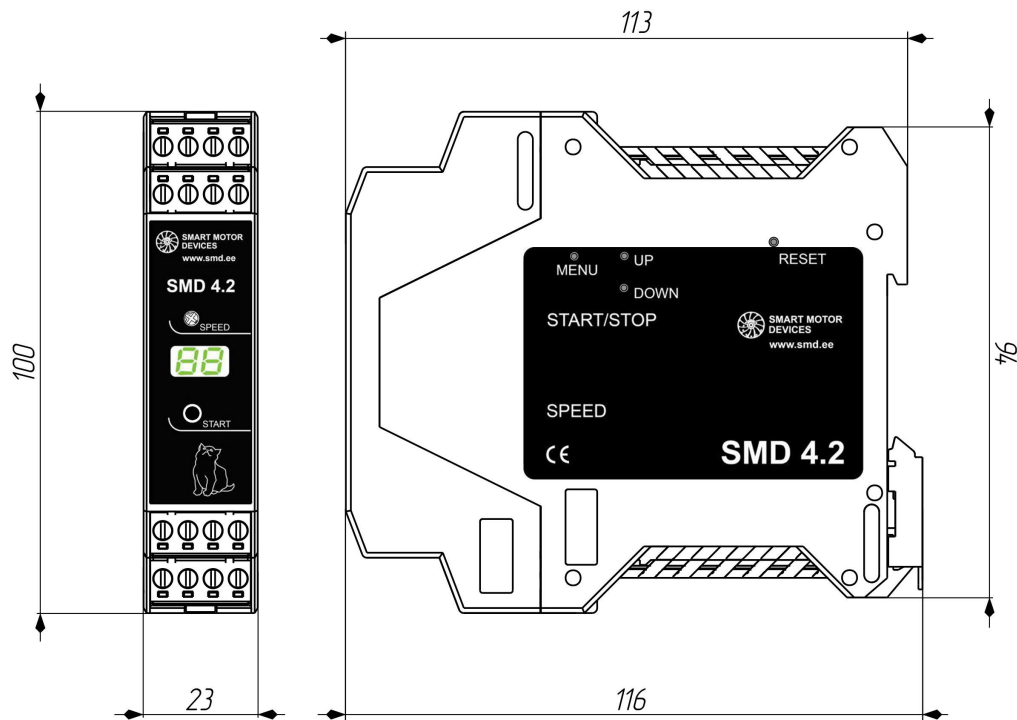

Fig. 2. The frame of the stepmotor driver SMD-4.2DIN
- buttons for adjusting of a control mode MENU, UP, DOWN, start the operation START and reset the driver RESET (fig.2).
Factory reset to default parameters – simultaneous pushing and holding of UP and DOWN buttons longer than 8 sec till a sound signal. To reset the driver SMD-4.2DIN state press the button RESET (fig.2).